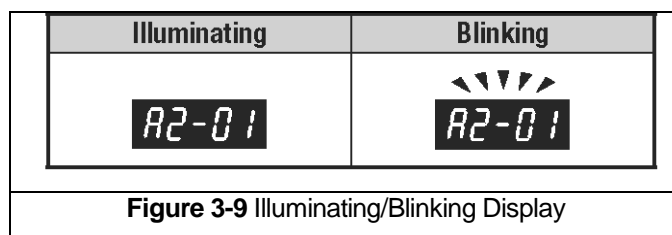

Figure 3-9 Illuminating/Blinking Display
3.6.6 During operation the data display will exhibit illuminating or blinking data as shown in **Figure 3-9**.